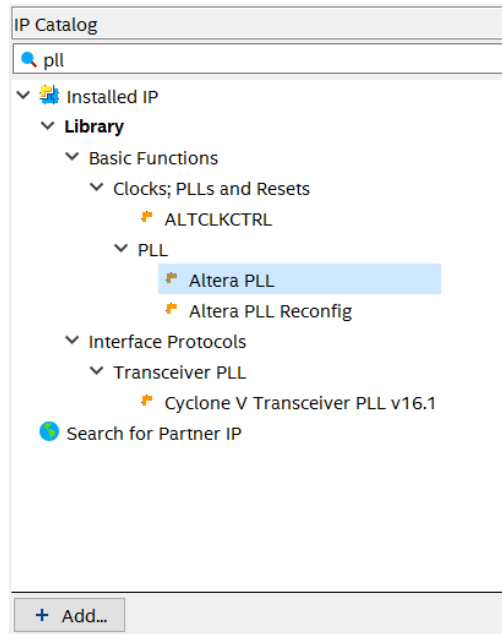

Figure 3-8 IP catalog
1. Choose **Tools > IP Catalog** to automatically displays the IP cores available for your target device. Double-click any IP core name to launch the parameter editor and generate files representing your IP variation (see **Figure 3-8**).